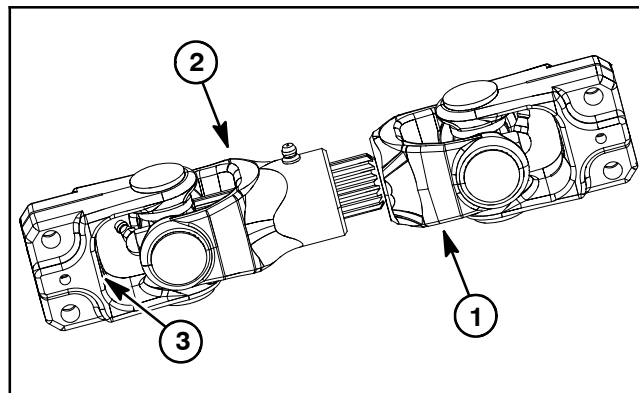

Figure 63
2. Position drive shaft assembly to hydraulic pump and motor/generator shafts. The drive shaft male yoke should be installed onto motor/generator shaft (Fig. 63). Position female yoke fully onto pump shaft so the shaft end is flush with the inside of the yoke flange.
3. Secure drive shaft yokes to pump and motor/generator shafts with two (2) cap screws (item 5) and flange nuts (item 9).
5. Secure intake shrouds (items 6 and 7) and brush seals (item 8) to machine.
- A. Make sure that four (4) compression limiter spacers are placed in the mounting holes in the upper intake shroud.
- C. Secure upper and lower intake shrouds with four (4) flange head screws (item 4) and flange nuts (item 5).
6. Carefully slide intake hose (item 2) onto upper shroud and secure in place with hose clamp.
7. Install hood saddle (item 1) onto frame brackets. Lower and secure hood and operator seat.